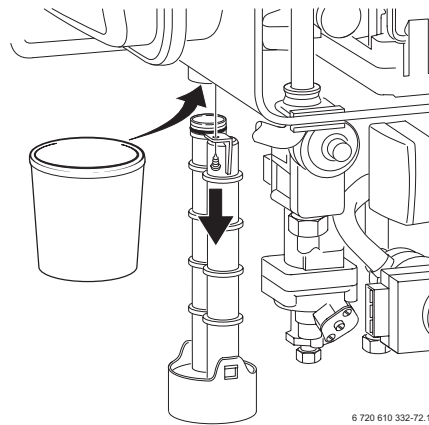

Fig. 52
- Unscrew condensation trap and place suitable container underneath. Refer to fig. 52.
In order to prevent spillage of condensate, the condensation trap should be completely removed, (see page 34, fig. 52).